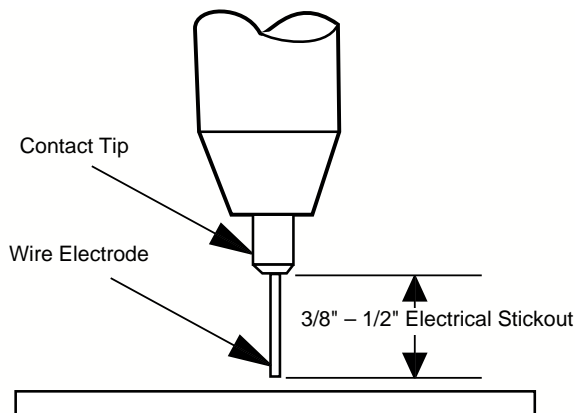

FIGURE B.6
13. Refer to Figure B-6. Cut the wire off 1/4" – 3/8" (6 – 10 mm) from the end of the tip. The SP-135T is now ready to weld.